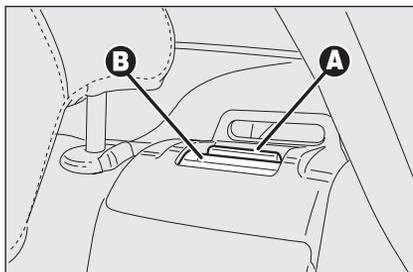

fig. 3
**IMPORTANT** On certain versions, correct backrest fastening is guaranteed when the “red band” **A**-fig. 3 side levers **B** is no longer visible. The “red band” actually indicates that the backrest is not properly secured.
***Make sure the backrest is properly secured at both sides (red band A-fig. 3 not visible) to prevent it moves forward in the event of sharp braking causing injuries to passengers.***